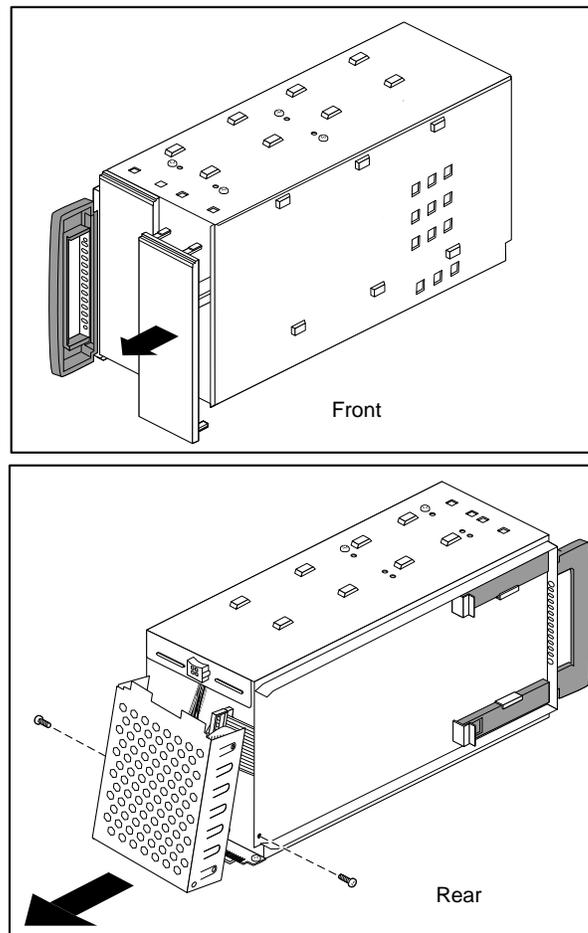

Figure 6-3 Removing a Blanking Plate and the Rear Access Plate From the Peripheral Carrier
3. Prepare the peripheral carrier, as shown in Figure 6-3.